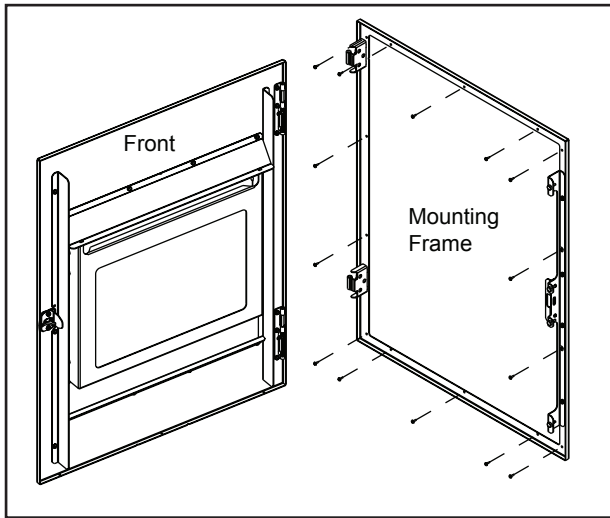

Figure 48.1
1. Use a Phillips Head screwdriver and attach the mounting frame to the face of the fireplace with 5 screws on the top and bottom and 4 on each side. **Figure 48.1**